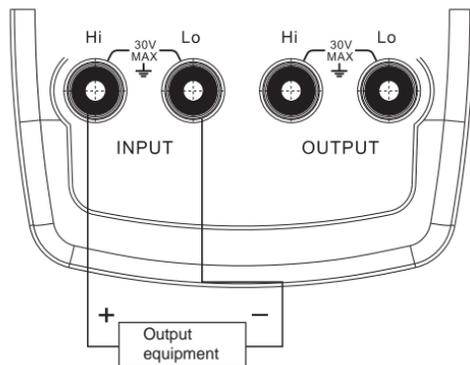

Figure 4
4. Insert the test leads to the INPUT terminals as figure 4.